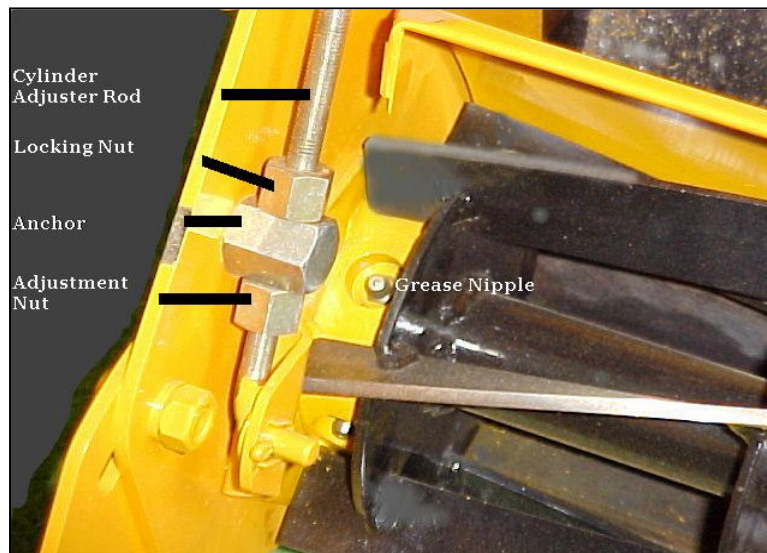
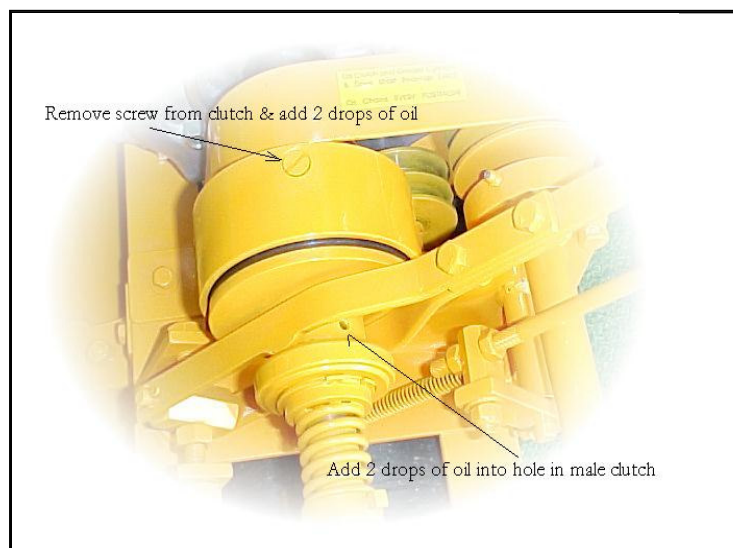

FIG2. CYLINDER GREASE NIPPLES & ADJUSTERS
FIG 3. CLUTCH LUBRICATION POINTS
5. Check that the cylinder is correctly adjusted to cut, by testing with paper or grass. Loosen the locking nuts on the cylinder adjuster rods and then turn the adjustment nuts a small even amount on each side till the required cut is achieved. Resecure the locking nuts. (see Fig.2)
6. Grease the nipples on the cutting cylinder (see Fig.2) and drive shaft, oil the chains and both clutch holes (see Fig.3).